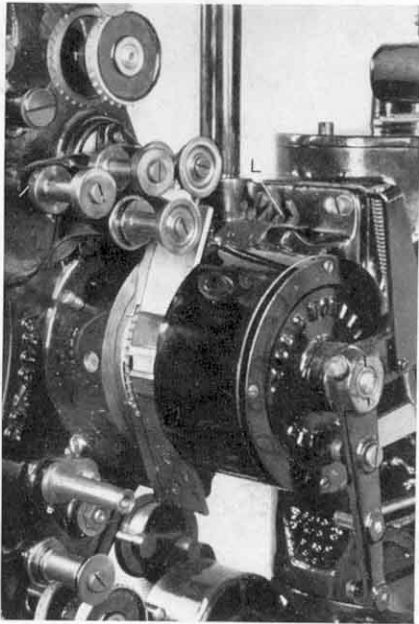

Fig. 5
The attachment consists of two main assemblies clearly shown in Figure 7, and is installed very accurately in position as illustrated in Figures 5 and 6. Note how the jaws of the sound attachment interlock with the lower aperture jaw to prevent light leakage.
- Fig. 5—Major detail of B. & H. Printer—with gate removed.